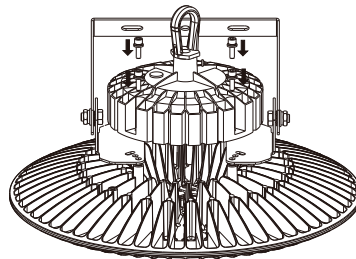

Fig. 5
2. Add the U-Bracket to the housing and align the driver's mounting holes to the holes found on the bracket. The mounting holes for the driver, bracket, and housing should all line up together. (Figure 5).